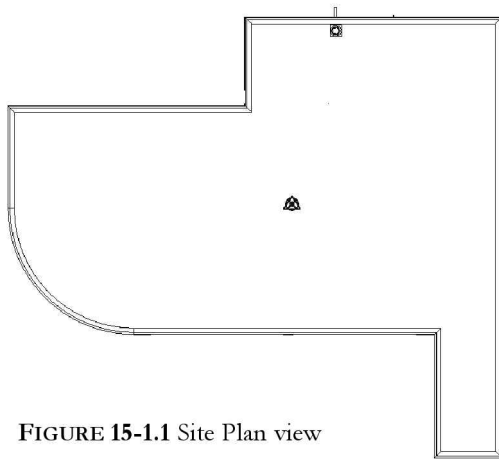

FIGURE 15-1.1 Site Plan view
- a. Adjust the category visibility so your view matches Figure 15-1.1. Also, set the *Detail Level* to *Fine*.
Here you will basically see what appears to be a roof plan view of your project (Figure 15-1.1). This view has the visibility set such that you see the project from above, and the various “site” categories are turned on so they are automatically visible once they are created. Next, you will take a quick look at the *View Range* for this view so you understand how things are set up.